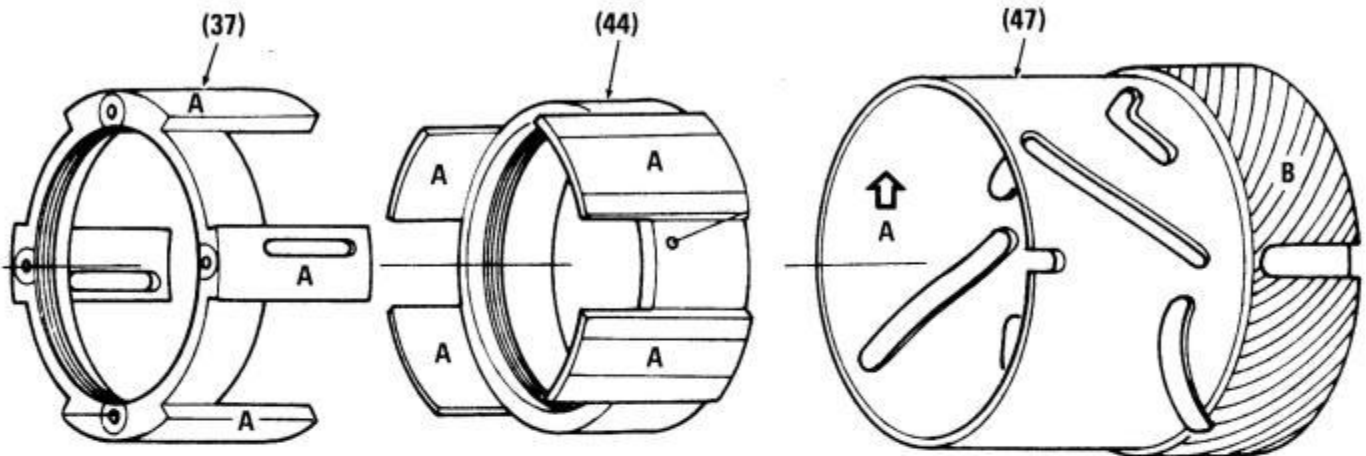
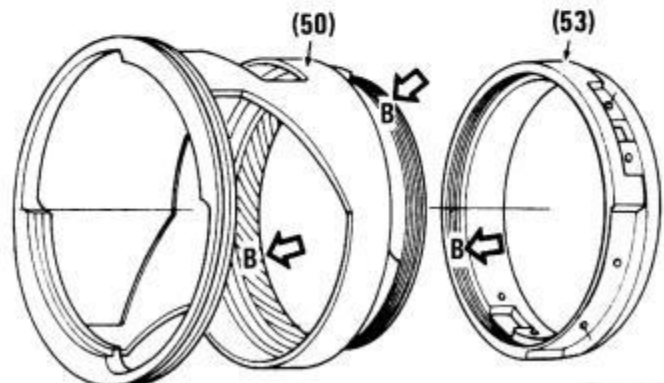

FIG. 4-17
FIG. 4-18
Lubrication is described below, however, the sequence of lubrication is given in the reassembly procedure and should be accomplished when specified. Refer to Fig. 4-17.
- a) Apply a thin film of lubricant "A" to the inside of inner helicoid (47).
- b) Apply a thin film of lubricant "A" to the bearing surfaces of slide housings (37) and (44).
- e) Apply a thin film of lubricant "B" to threads of inner helicoid (47) (Fig. 4-17) and middle helicoid (50), Fig. 4-18.
- f) Apply a thin film of lubricant "B" to the threads of outer helicoid (53) and to the mating threads on middle helicoid. Assemble, rotate back and forth to spread lubricant evenly. Separate the helicoids and remove excess lubricant. Fig. 4-18.